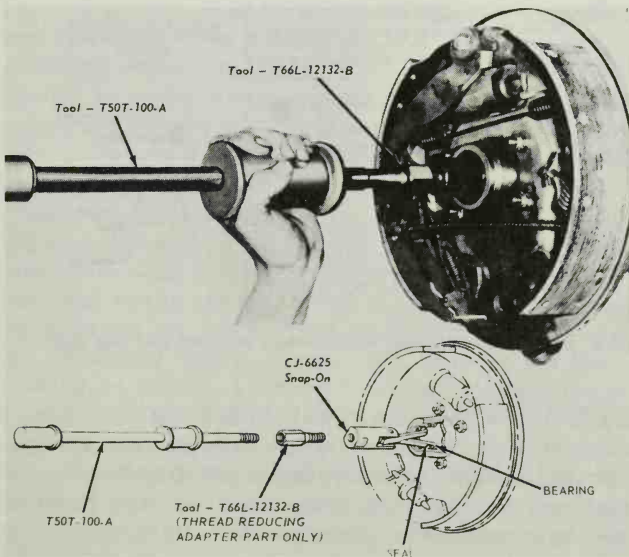

Fig. T-4. Using a slide type puller to withdraw oil seal from axle housing.
**BEARING AND OIL SEAL REPLACEMENT:** The removal of the wheel bearing and oil seal from the axle shaft housing is accomplished by means of a slide type puller, Fig. T-4.
**REPLACING THE OIL SEAL:** Whenever a rear axle shaft is replaced, the oil seal must also be replaced. The seal is removed from the axle housing by means of an impact type puller, Fig. T-4.